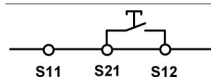

Fig. 6:
- Corresponded to the application, the starting circuit have to be wired according to Fig. 6 or Fig. 7
Wire the start circuit according to Fig. 6 or Fig. 7 to set the starting behavior.